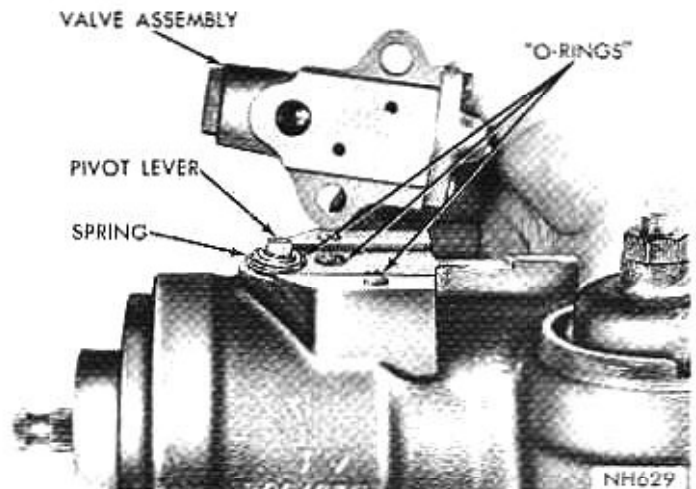

Fig. 10—Removing Valve Body Assembly
- (1) Drain steering gear through the pressure and return connections by turning steering wormshaft from one extreme of travel to the other.
- (2) Remove valve body attaching screws, and remove valve body and three "O" rings (Fig. 10).